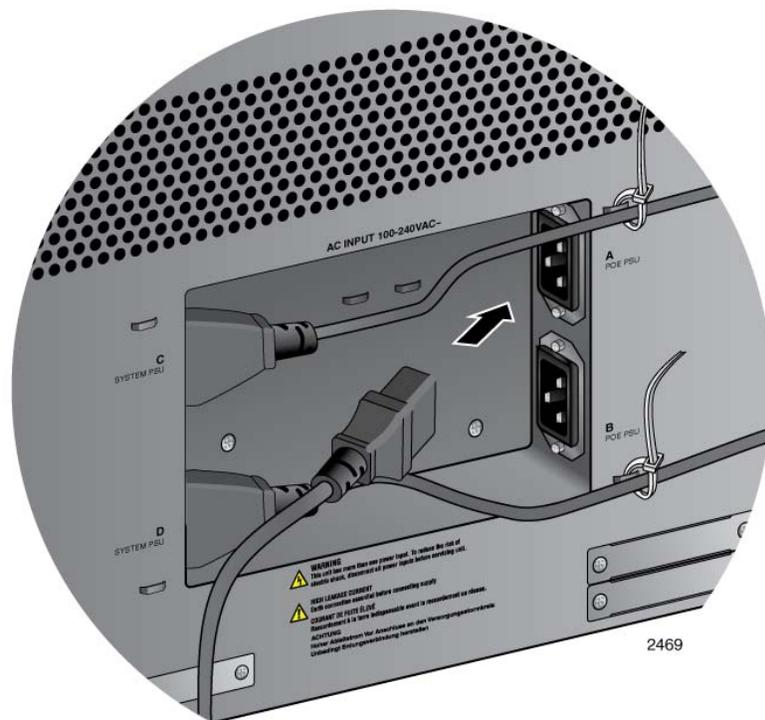

Figure 108. Connecting the AC Power Cord for the AT-SBxPWRPOE1 Power Supply
2. Plug the AC power cord that comes with the power supply into one of the plugs, as shown in Figure 108.